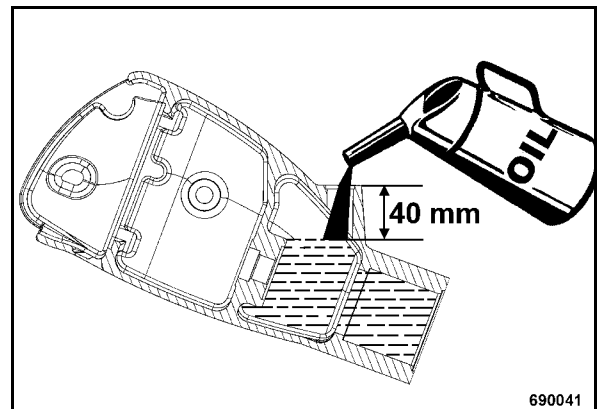

Fig. 65
- Fill in hydraulic oil to approx. 40 mm below the edge of the filler opening (Fig. 65).